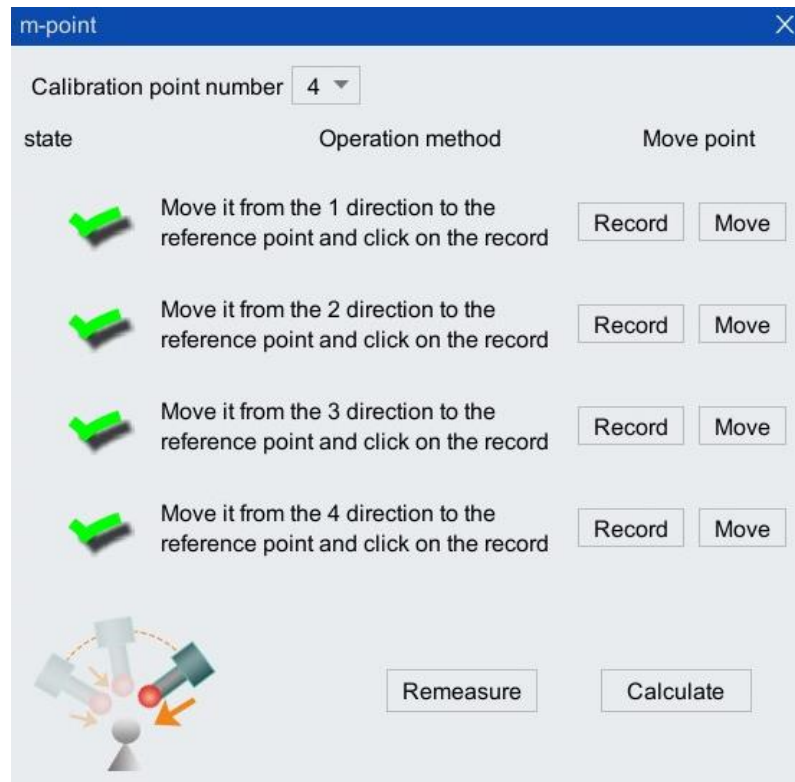

Figure 4-5 Interface status after all 4 points have been calibrated
Step5. After all calibrations are successful, all × will become ✓, as shown in Figure 4-5. Click the <Calculate> button to calculate the error. If it exceeds the error range, it needs to be re-calibrated. If it is within the allowable error range, the calibration is completed.